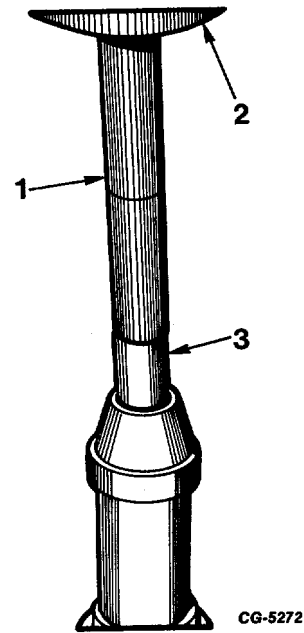

Fig. 26 Installing Lower Bushing using Bushing Installer SE-1955-7
- Position distributor housing in press. Insert bushing installer (SE1955-7) into bushing (Figure 26).